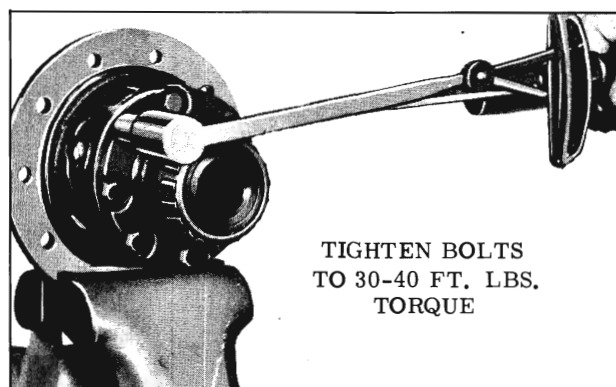

Fig. 6-120 Torqueing Cover to Case Bolts
9. Install eight cover to case bolts and tighten evenly and alternately to 30-40 ft. lbs. torque. (Fig. 6-120)